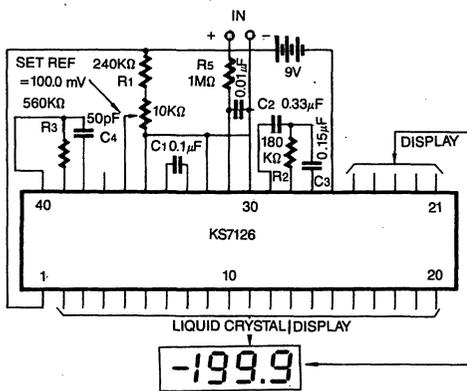

Figure 1: KS7126 Clock Frequency 16 KHz (1 reading/sec.)
- 3) Unless otherwise noted, specifications apply  $T_a = 25^\circ\text{C}$ ,  $f_{\text{clock}} = 16\text{KHz}$  and are tested in the circuit of Figure 1.